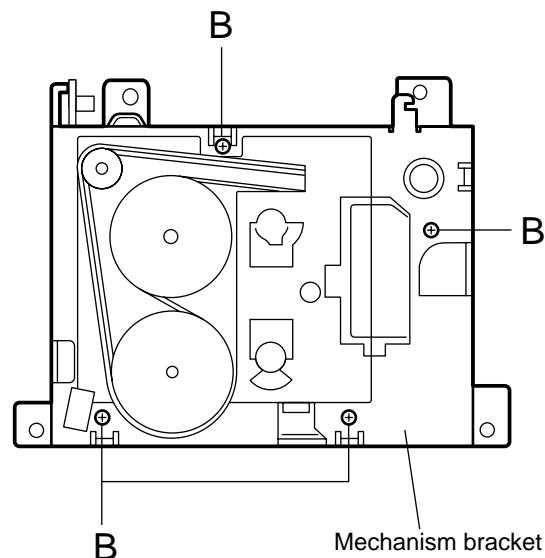

Fig.2
■ Removing the mechanism bracket (See Fig.2)